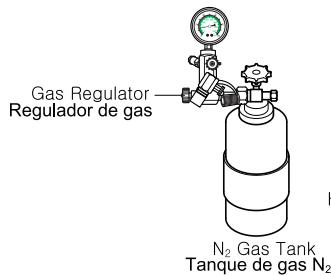

Fig 1
1. Connect gas regulator with N₂ gas tank. (Fig. 1)